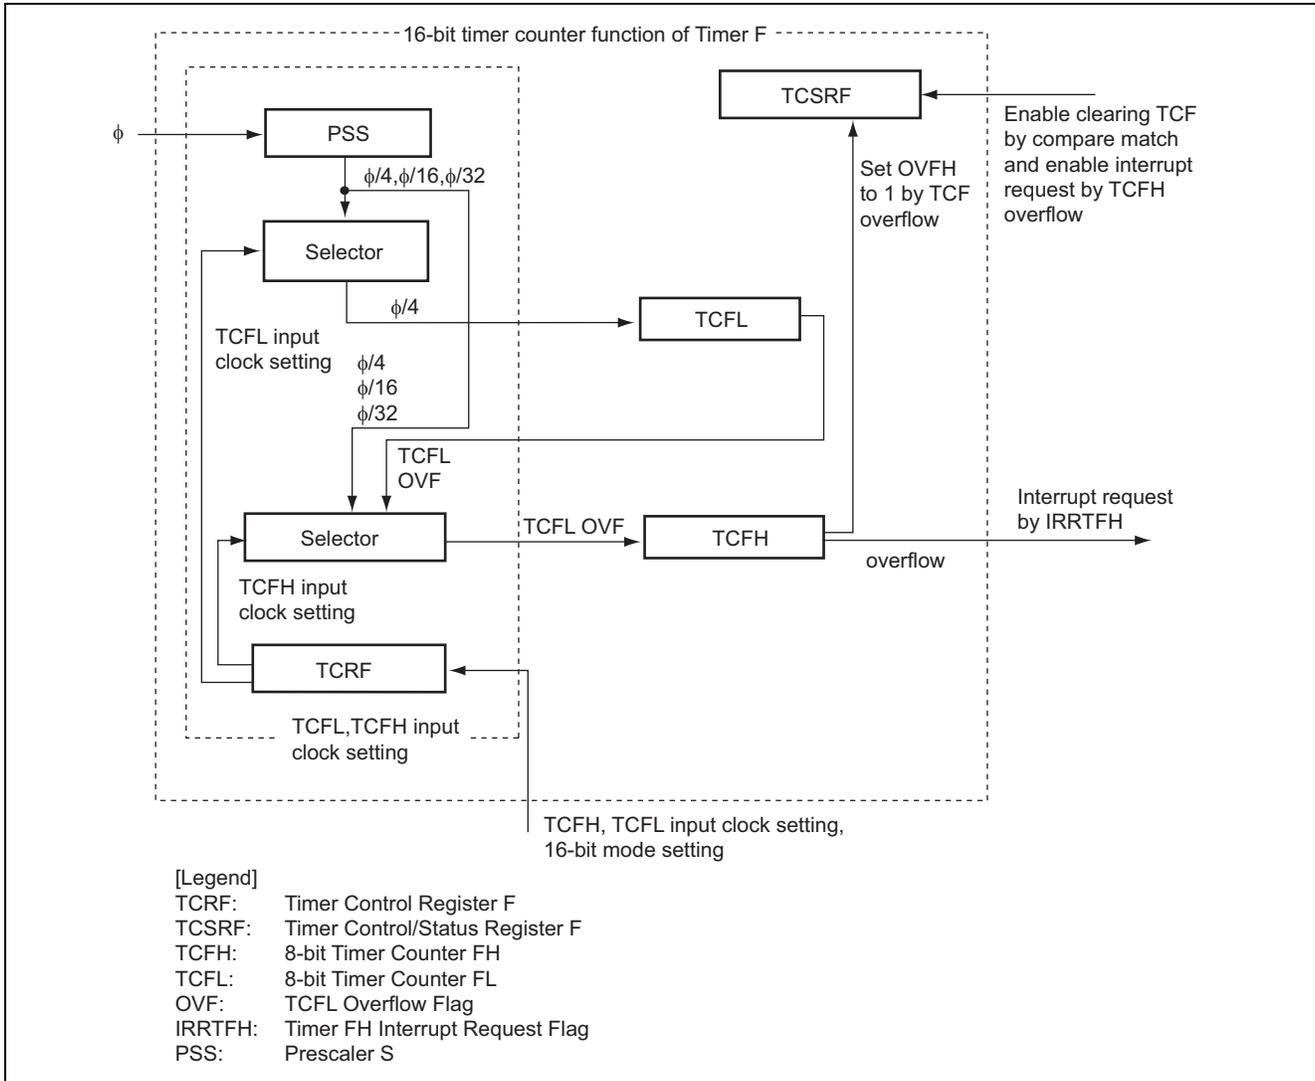

Figure 1 Block Diagram of Timer F 16-bit Timer Counter Function
- a. Figure 1 shows the block diagram of the 16-bit timer counter function of Timer F, which is described below.